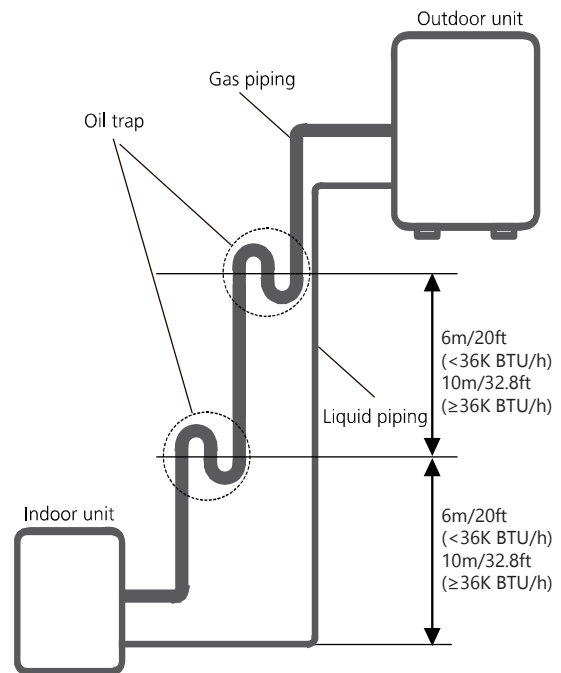

Fig. 7.3
-It is recommended that vertical suction risers not be upsized. Proper oil return to the compressor should be maintained with suction gas velocity. If velocities drop below 7.62m/s (1500fpm (feet per minute)), oil return will be decreased. An oil trap should be installed every 6m(20ft)(<36k models) or 10m (32.8ft)(≥36k models) of vertical suction line riser. (See Fig. 7.3)